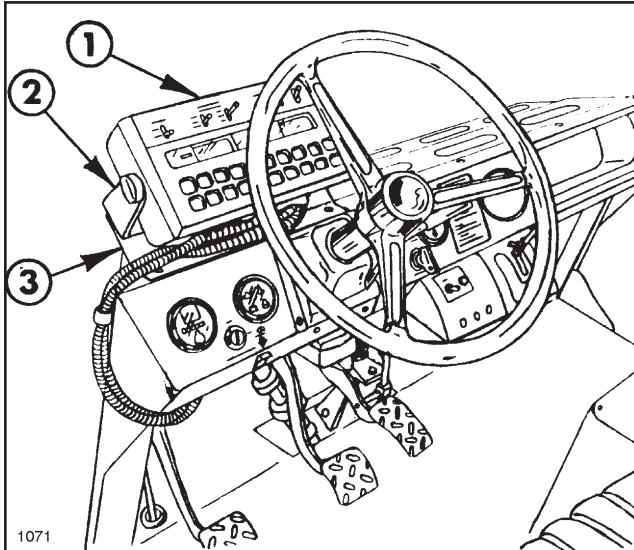

FIG. 6
2. Remove (15) screws and washers securing Front Hood to vehicle frame and remove hood.
3. Temporarily mount the Console Mounting Bracket to the upper dash support using two of the earlier removed machine screws and washers (FIG. 6).
4. Using (2) 1/4" x 1" hex head cap screws, lock washers, and hex nuts, secure the "U" shaped Console Bracket to the metal Console Mounting Bracket and mount the Control Console within the "U" shaped bracket using the (2) mounting knobs (FIG. 6).